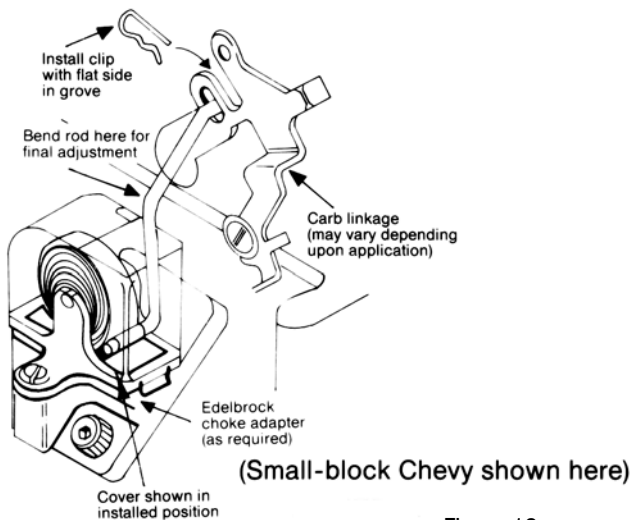

Figure 12
5. Insert plain end of Edelbrock choke rod in rolled eye of spring and clip end in carburetor linkage. See Figure 12.
6. Open throttle by hand and push on choke blade. By bending link, adjust to the same pre-load condition that you felt with the stock manifold. See Figure 12.
7. When pre-load is set, remove link from carburetor end. Slide cover over link to base. Push down on cover until it snaps in place. See Figure 12.
8. Replace clip end carburetor linkage and install clip furnished. See Figure 12.